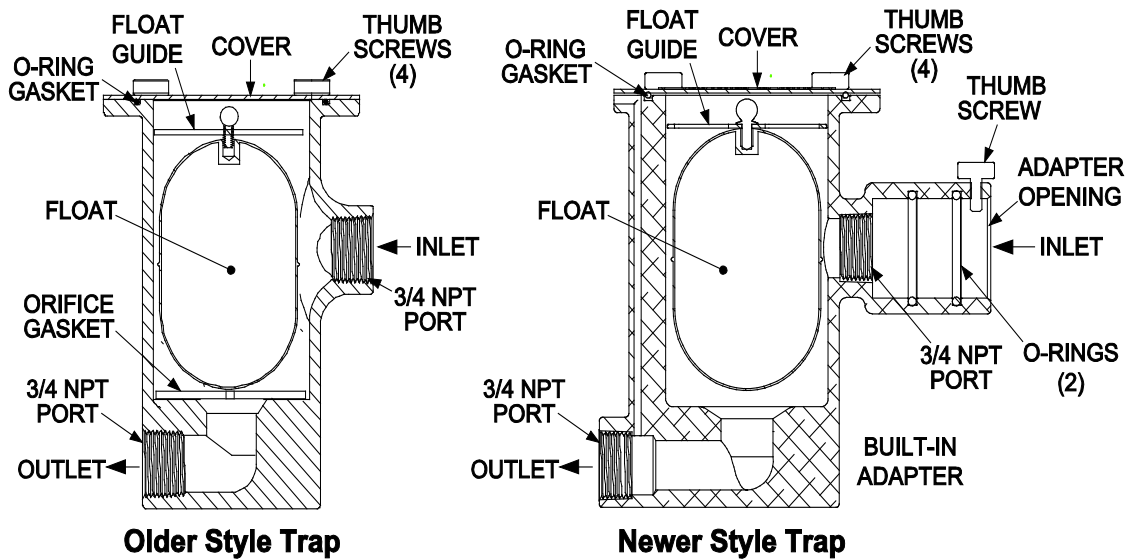

Figure 10. Condensate Trap Part No. 24060
There are two slightly different types of condensate traps (part no. 24060) that may be used at your site; an older style without an inlet adapter, or a newer style with a built-in inlet adapter (see Figure 10). Maintenance is the same, except that the newer style does not need an orifice gasket (Step 5).
1. Remove the connections on the inlet and outlet sides of the condensate trap, shown in Figure 10.
2. Refer to Figure 10 and loosen the four (4) thumbscrews securing the cover on the condensate trap and then remove the cover.